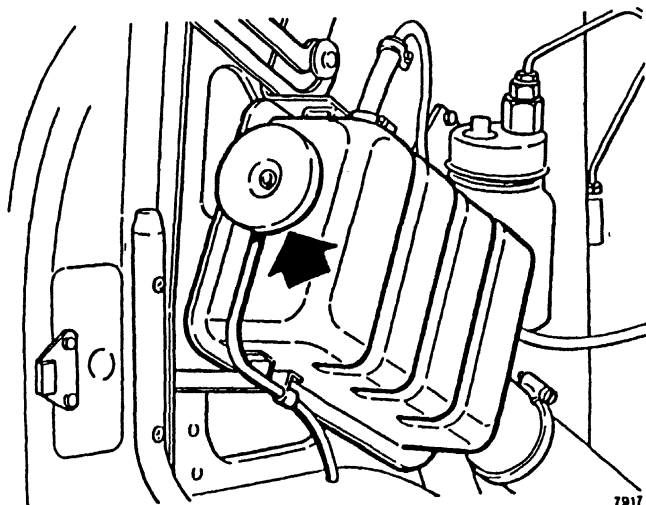

Fig 3 Cooling system header tank
5. Check the level in the system after removing the bayonet-type filler cap (Fig 3 (arrowed)) from the header tank which is accessible after raising the engine left-hand side access panel. If necessary, add coolant until the level is up to the bottom of the filler neck.